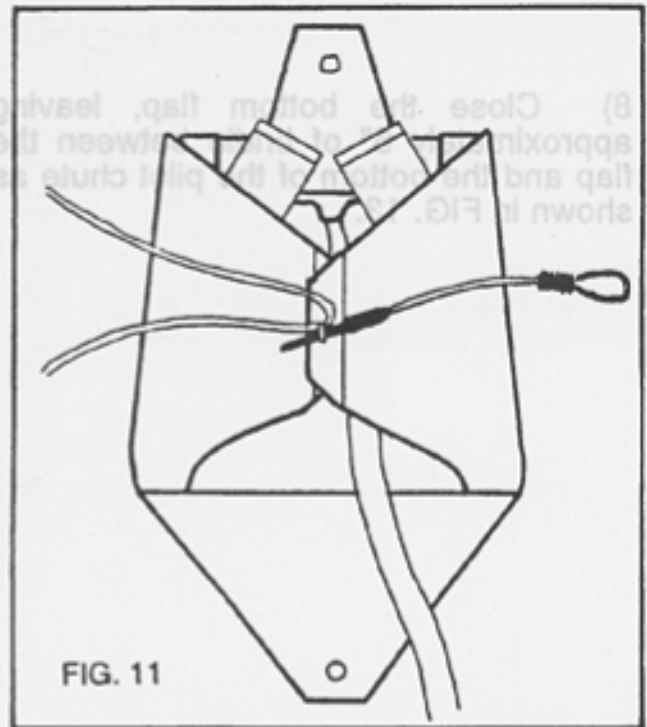

FIG. 11
The remainder of the reserve packing method for the DOLPHIN is exactly the same regardless of the type of canopy. Refer now to FIG. 11 of the Ram Air Reserve Packing Instructions, and continue with Step 7.
6) Lay the reserve risers into the reserve container so that they lie flat with no twists. The connector links should now be in the bottom corners of the container. Thread the pullup cord thru the reserve closing loop and then pass both ends up through the grommet in the free bag. Lay the bag into the reserve container so that the line stow pouch is on the underside, and the locking stows are toward the lower end of the container. Route the bridle out the bottom of the container and close the side flaps, either side first, securing with a temporary pin (FIG. 11). Leave the tuck flaps out until all but the top flap have been closed. They will be used then to help "dress" the container.